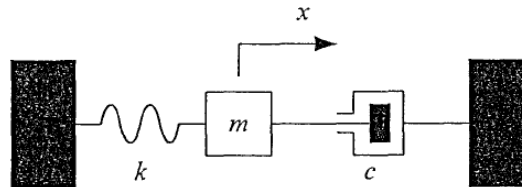

Figure 2.
12. Consider the mechanical system shown in Figure 2. Write down the differential equation for modeling this mechanical system.